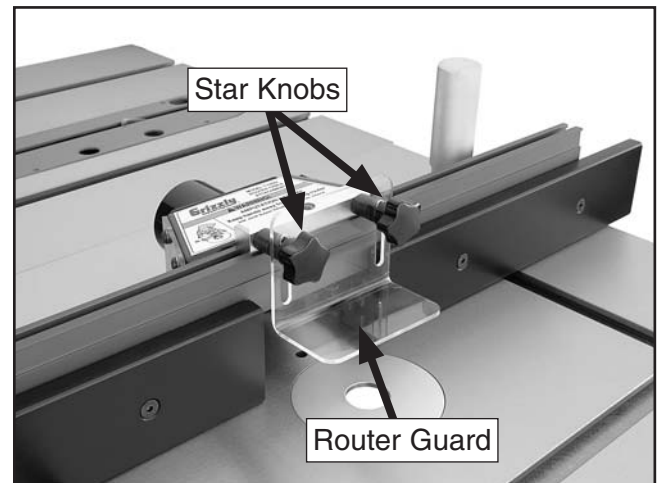

Figure 18. Router guard installed.
13. Attach the plastic router guard to the guard bracket with the (2) star knob bolts, as shown in **Figure 18**.